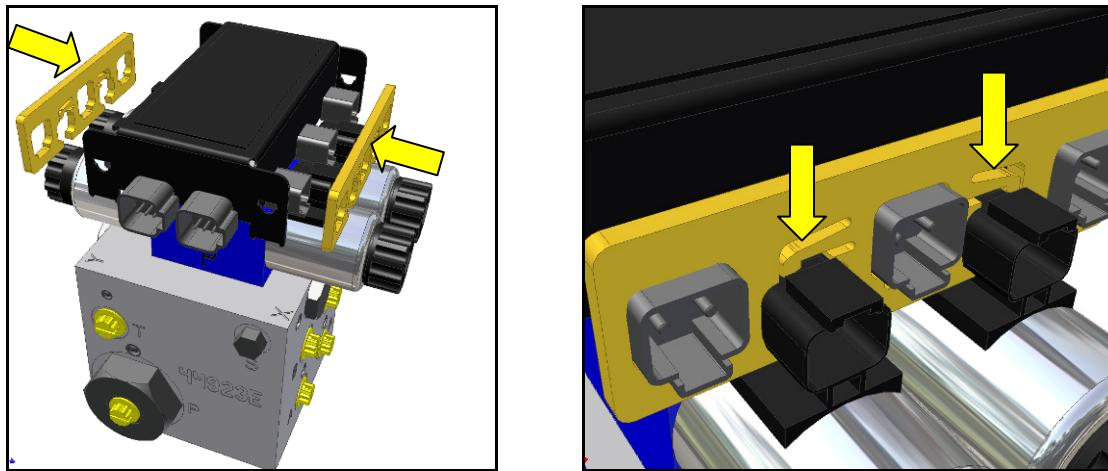

Figure 22: Valve Module Bracket Installation
3. Place the valve module between the valve coils. Slide a valve mounting bracket over the connectors of the valve module and the valve coil connectors. This may require flexing the plastic bracket slightly (**Figure 22**).